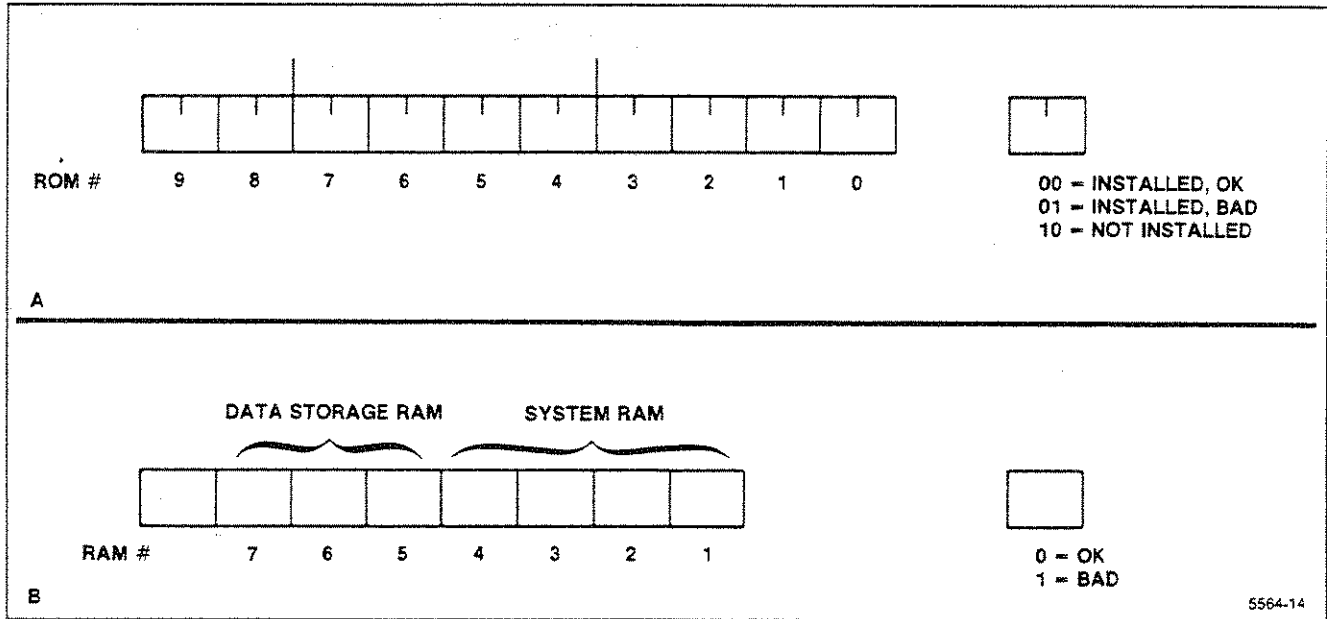

Figure 8-1. TEST Conversion Chart.
The TEST query response consists of two decimal numbers that indicate if a ROM or RAM IC was found to be defective. These numbers must be translated to their binary equivalents to determine the ROM and RAM locations. (If all ROM and RAM are good, the TEST query response will be ROM:0,RAM:0.) After the binary numbers are determined, put them into the conversion chart in Figure 8-1 to identify the IC number. Then, use Table 8-3 to find the correct circuit number and circuit board. The following example shows how to use the conversion chart and Table 8-3. If any ROM or RAM ICs are indicated to be bad, refer this information to qualified service personnel.
2. Insert this binary number in part A of Figure 8-1 (right-justified). Blocks 6 and 2 will be 01. This indicates that both ROM 6 and ROM 2 are bad; all other ROMs are good.
2. Insert this binary number in part B of Figure 8-1 (right-justified). Blocks 5 and 2 each contain a 1, which indicates that both RAMs 5 and 2 are bad; all other RAMs are good.